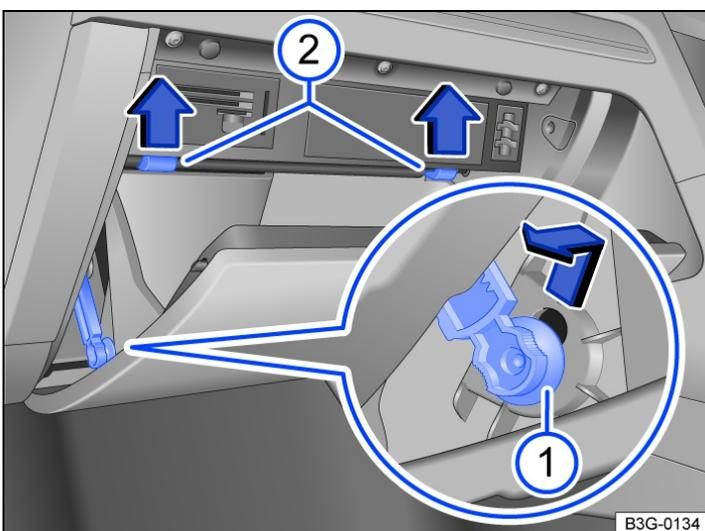

Fig. 2 Fuse box cover in the dash panel: right-hand drive vehicle, on the front passenger side.
- Push damper element upwards into the opening of the holder and pull out to the side → Fig. 2 ^①.
- Push catches upwards in the direction of the arrow at the same time open the stowage compartment further → Fig. 2 ^②.
- To *install*: move the stowage compartment into position. Insert the damper element into the opening in the holder and slide upwards until it engages audibly. Carefully push the stowage compartment forwards beyond the resistance of the catches → Fig. 2 ^②.